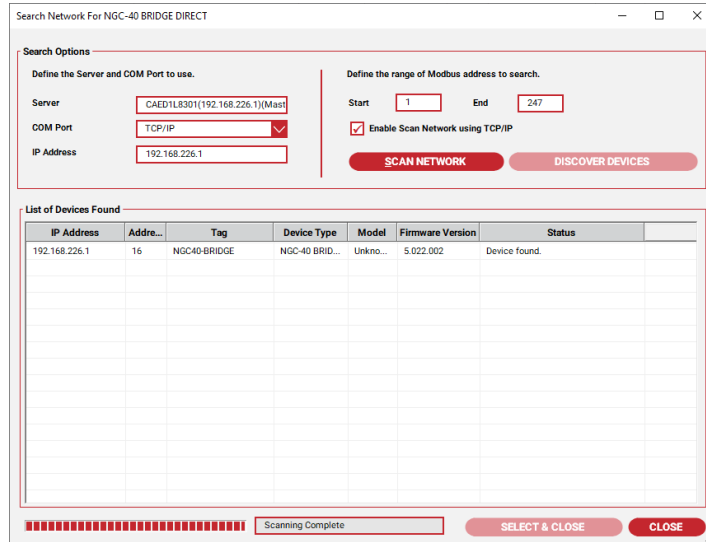

Figure 3.20 Search for NGC-40 Bridge Direct
1. From the Device drop-down menu, select NGC-40, then Add NGC-40 Bridge Direct. The window (as shown in Figure 3-20 Add a New NGC-40 Bridge with Direct Connection) allows you to enter the information for the NGC-40 Bridge you wish to install.